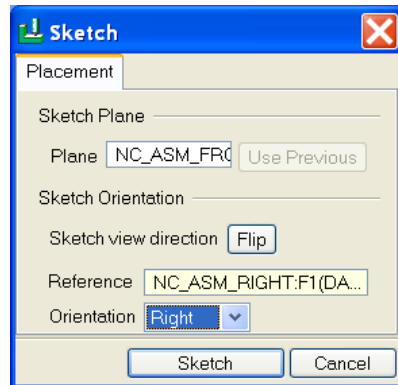
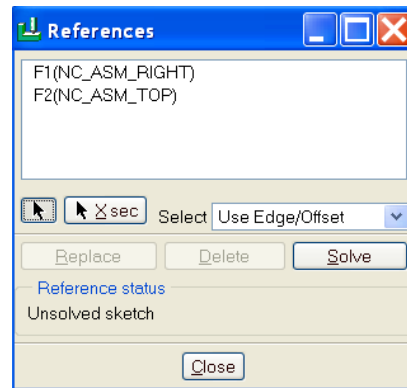
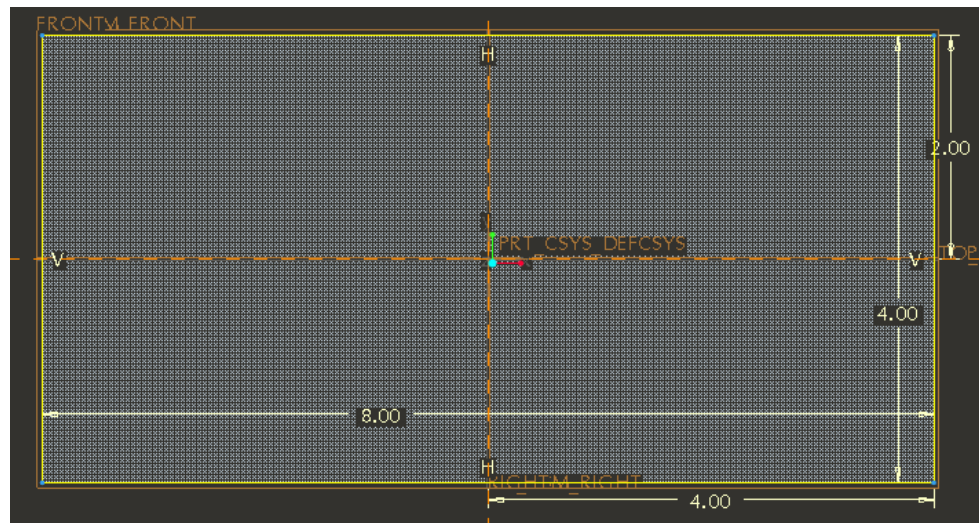
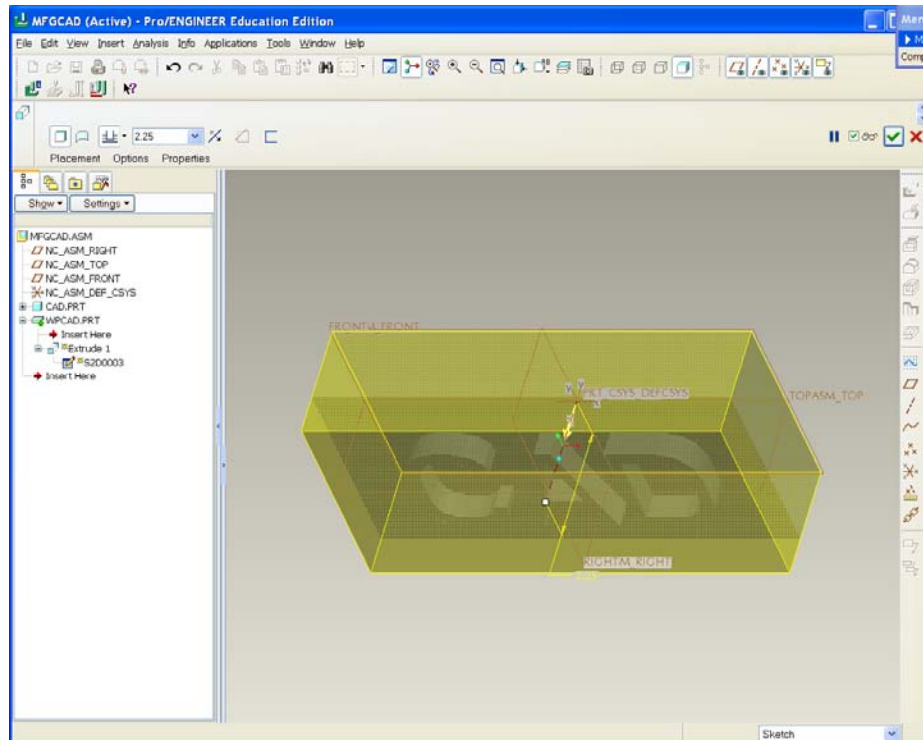

Figure 1.18
Figure 1.19
Figure 1.20
Figure 1.21 Reference Model and Workpiece
5. Create a workpiece 4"x 8"x2.25". From MANUFACTURE menu, select Mfg Model → Create → workpiece. Enter a name for the workpiece: wpcad. Select Solid → Protrusion → Extrude → Solid → Done. Select NC_ASM_FRONT as sketch plane and NC_ASM_RIGHT as reference plane in Figure 1.18. Create a rectangle 4"x8" surrounding the CAD part as shown in Figure 1.20 with references as shown in figure 1.19 and extrude it to 2.25" as shown in Figure 1.21.